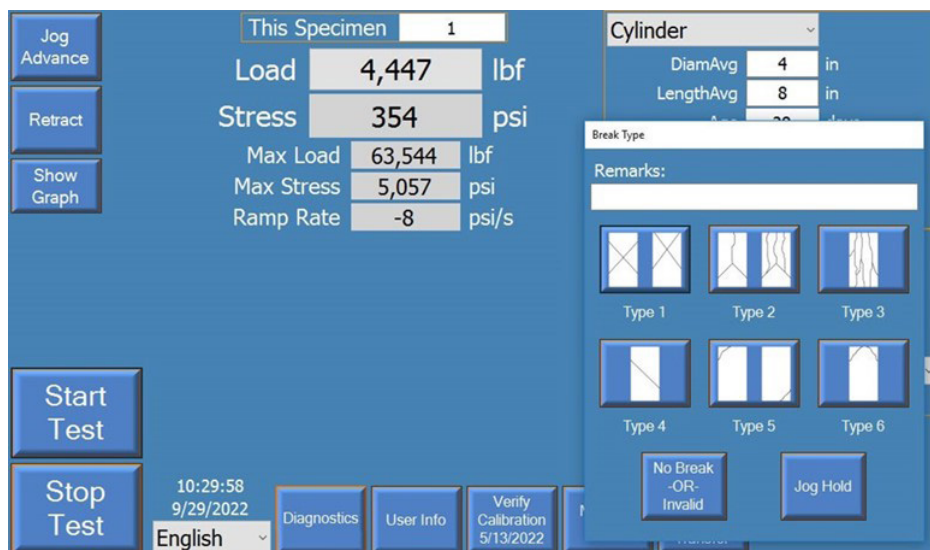

Fig. 6d: Break Type selection window
10. If “Ask for Break Type” is selected, a break type can be chosen and included with the report (see Fig. 6d).
Used to store the break type according to ASTM C39. When the checkbox "Ask for Break Type?" is selected, the system will prompt the user to choose the break type at the end of each test (see Fig. 6d).